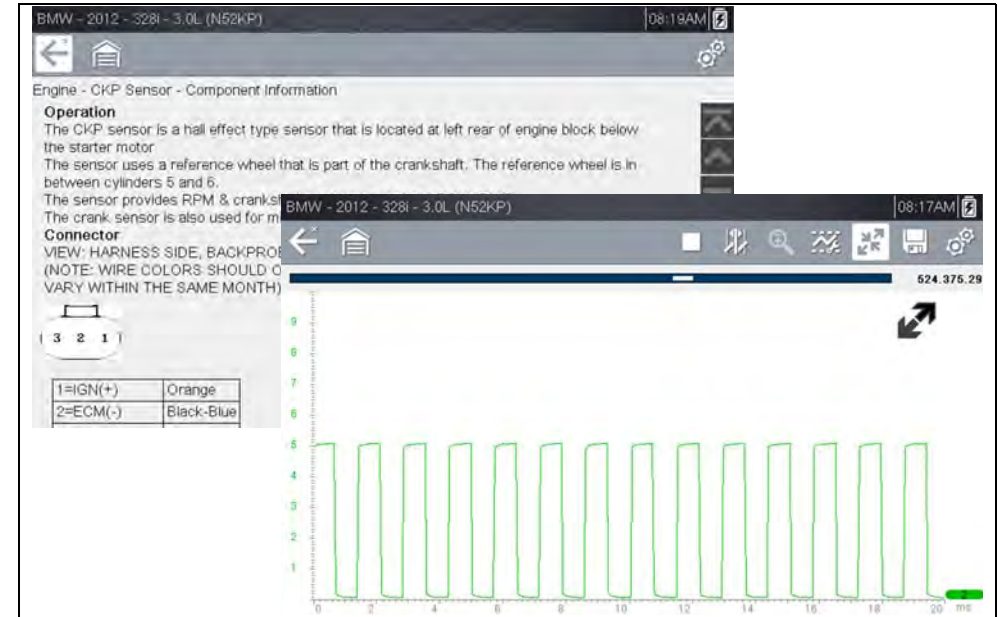

Figure 9-9 View Options
3. Tap on the Information Panel once to display the information panel in full screen view. Tap on it again to return to split view. The **Expand/Collapse** icon can also be used to toggle through split and full screen views (Figure 9-9).